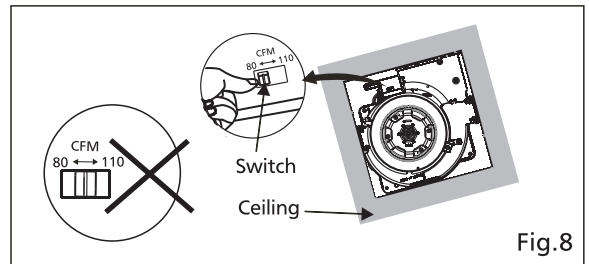

Fig.8
10. Select the air volume speed by adjusting the switch. Factory setting is "80" position; sliding "110" is high airflow position. (Fig.8)
- Make sure the switch is not set at the middle position; otherwise the fan will not function. (Fig.8)